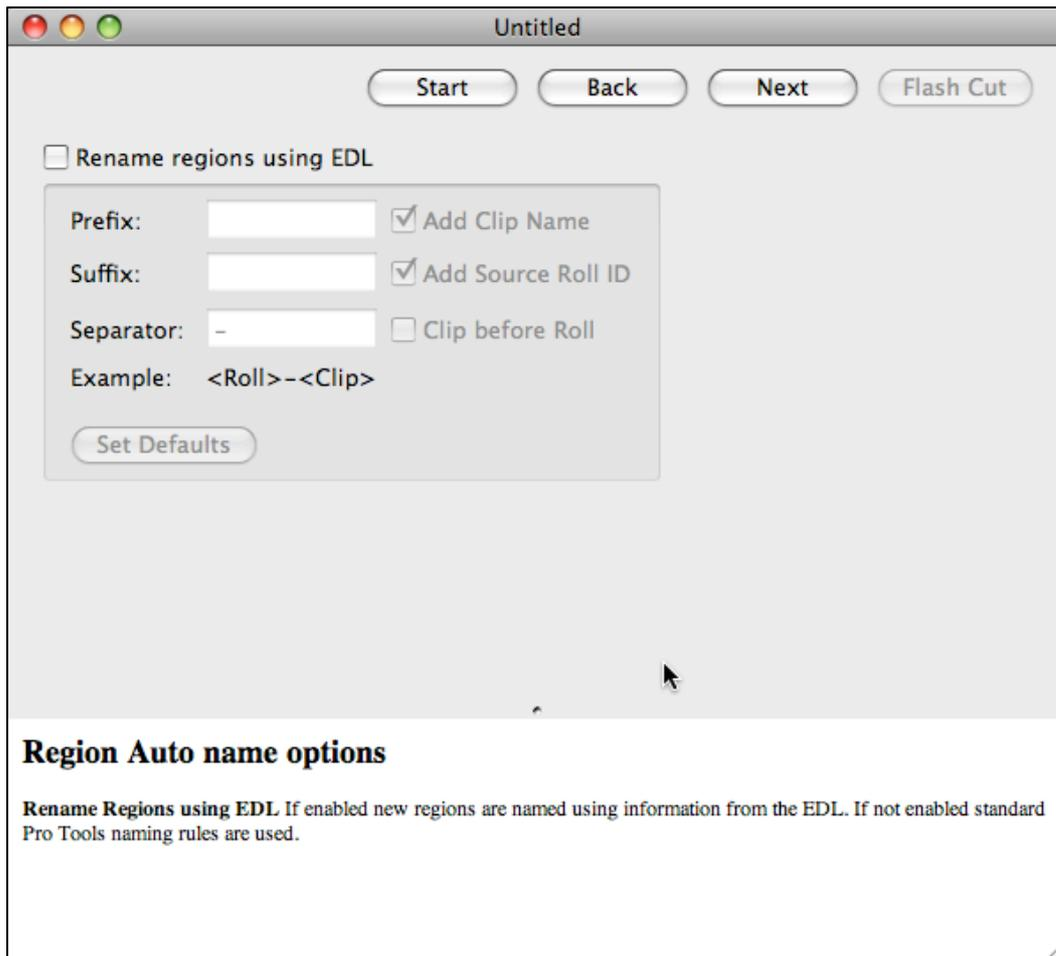

Figure 29 Region naming window
- For the example, it is not required to automatically rename regions using the EDL, so uncheck the **Rename regions using EDL** check box. The remaining controls will now be greyed out as shown in Figure 29.